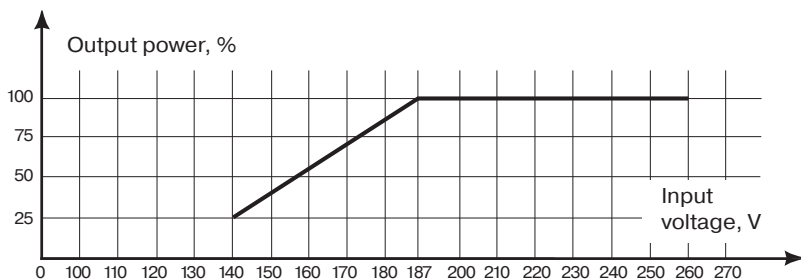

Fig. 5.
**Attention! When choosing an AVR, it is necessary to consider that reduction of input voltage increases value of input current, which means that maximum power of AVR is reduced too! Such dependence is shown in the graph (Fig.5).**